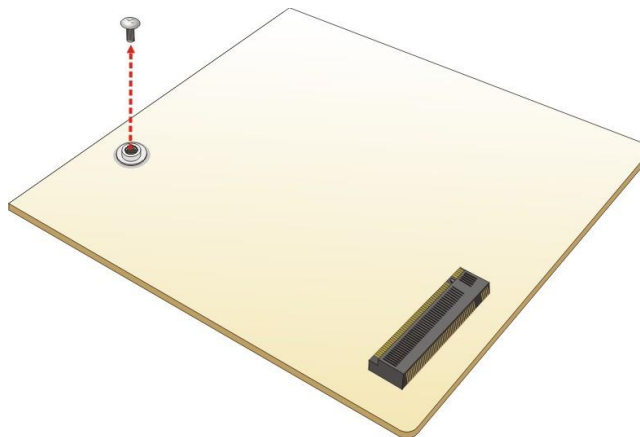

Figure 3-9: Removing the M.2 Module Retention Screw
Step 3: Remove the on-board retention screw as shown in Figure 3-9.